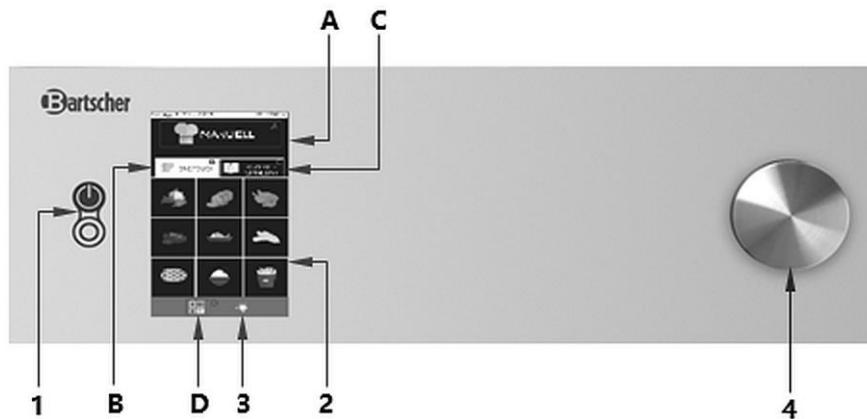

Fig. 7
Switch the appliance on with ON/OFF key (1, Fig. 7).
- The internal lighting is switched on by pressing respective key (3, Fig. 7), and then switches off automatically after 45 seconds unless it is switched off earlier by pressing the same key again.
1. Switch the appliance on with ON/OFF key (1, Fig. 7) on the control panel.
The control panel is equipped with the rotary control knob (4, Fig. 7). Rotate the rotary control knob to set the required parameters and press it to confirm the set values.
1. Switch the appliance on with the ON/OFF key (1, Fig. 7).
1. **Touch** the relevant field to change thermal processing parameters, e.g., temperature and **rotate** the rotary control knob (4, Fig. 7), until the required temperature setting is selected.
2. To confirm the change, press the parameter or rotary control knob (4, Fig. 7) again.
From the HOME screen page, by pressing the 'Manual' control field (A, Fig. 7), you access the setting screen of thermal processing parameters.